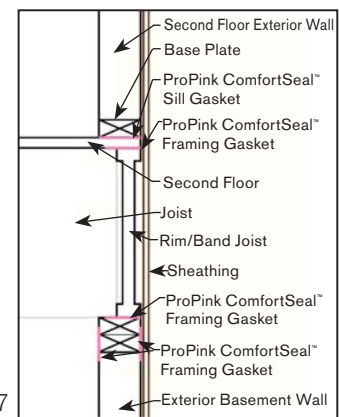

Fig. 7
**Option 1: ProPink ComfortSeal™ Framing Gasket between rim/band joist and top plates (See Fig. 7)**